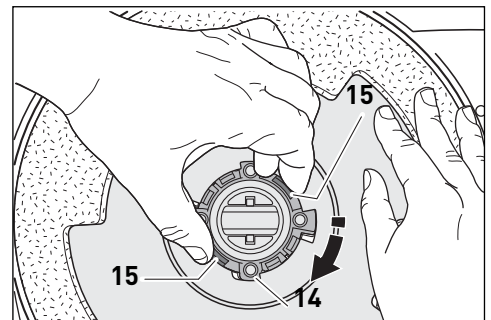

Figure 9
To insert a new pad, fit the floor pad (13) to the pad retainer (14), using the notches as a guide for correct position. Press the pad down onto the pad retainer (14) until it locks in place. Next, press the retainer tabs (15) in using your thumb and forefinger and turn the pad clockwise until it locks into place again (figure 9).